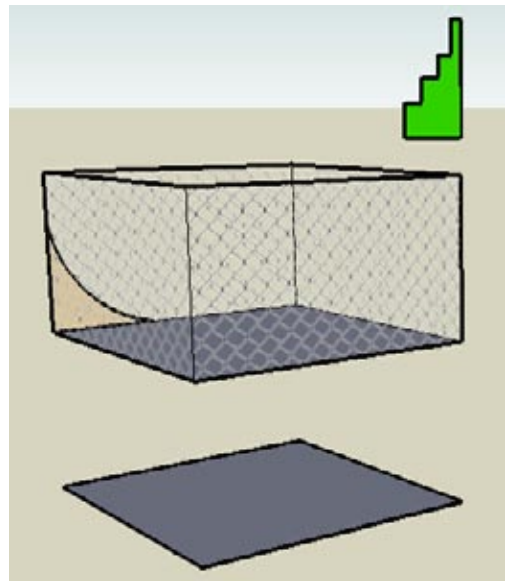

Figure 4-55
9. Move one of the Follow Me faces to a location directly above the box. I chose to move the section for the steps, as shown in Figure 4-55.